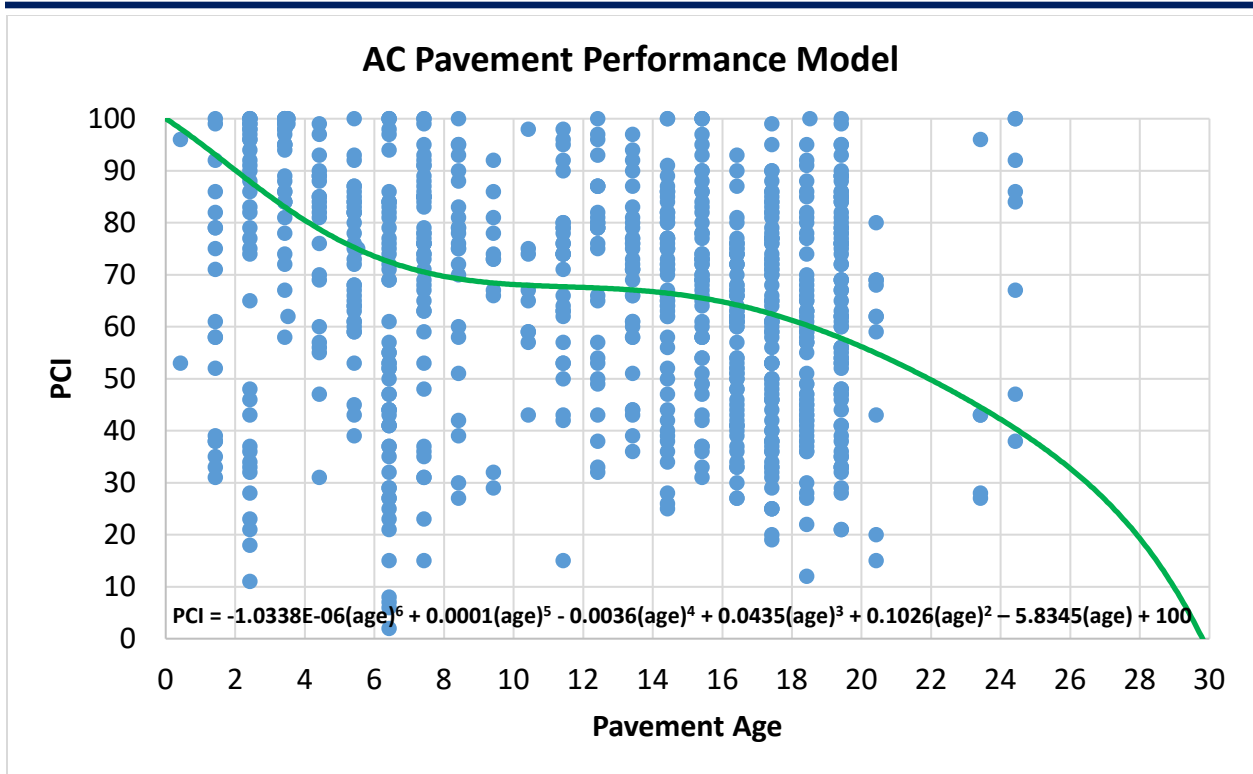
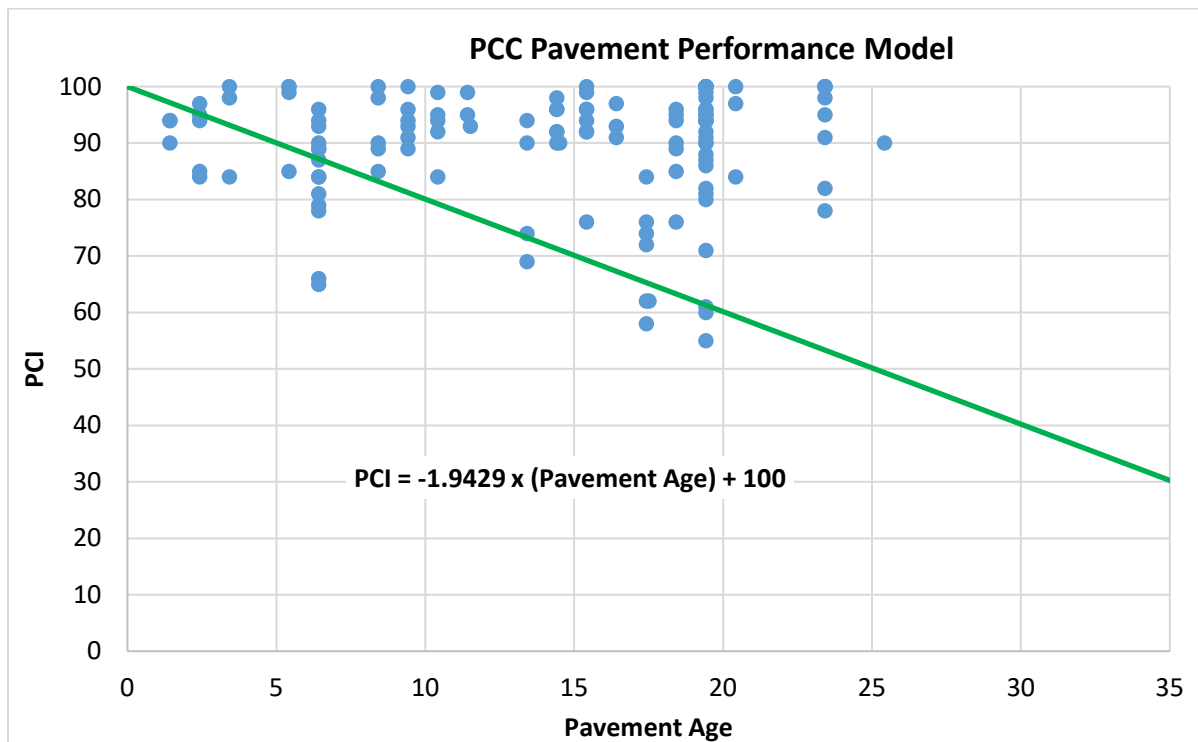

Figure 14. PCI family model for asphalt surfaced streets.
Figure 15: PCI family model for concrete surfaced streets.
For the Village of Glen Ellyn, a PCI family model was developed both for the asphalt (AC) surfaced and concrete (PCC) surfaced pavements. The AC pavement performance model was developed based on the age data provided by the village and the latest PCI conditions. The reliability of the pavement performance models is expected to increase with future pavement inspection and age data. Figure 14 shows the PCI family model used for the AC pavements and Figure 15 for the PCC pavements.